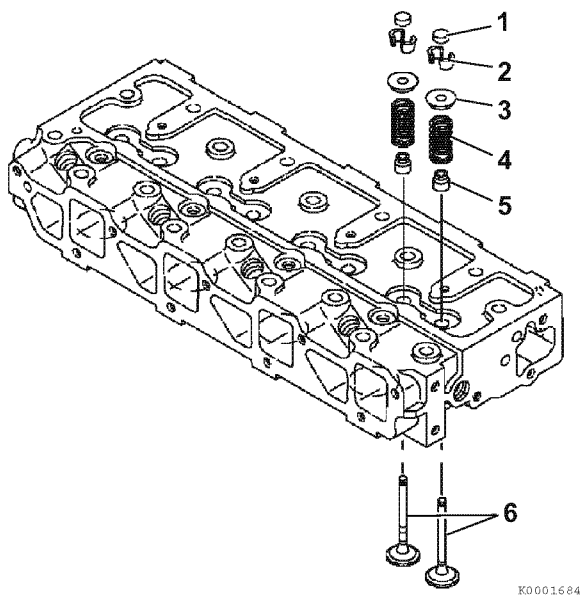

Figure 6-31
4. Place all the valves (Figure 6-31, (6)) in their proper location in the cylinder head.
5. Place the cylinder head on the workbench with the combustion side down to install the valve springs. Install the valve spring (Figure 6-31, (4)) and the spring retainer (Figure 6-31, (5)).
7. Insert the valve keepers (Figure 6-31, (2)) and slowly release the tension on the valve spring. Install the valve cap (Figure 6-31, (1)). Repeat the steps on all the remaining valves.